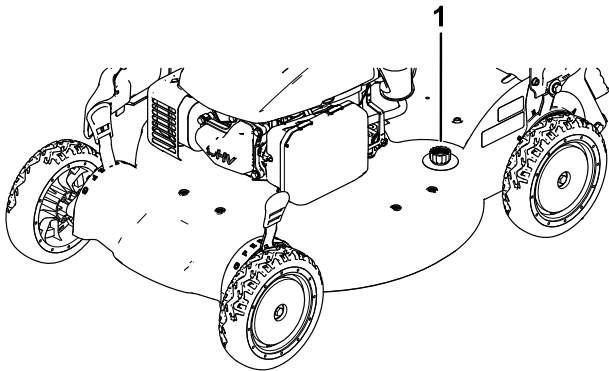

Figure 21
4. Attach a garden hose that is connected to a water supply to the washout port (Figure 21).